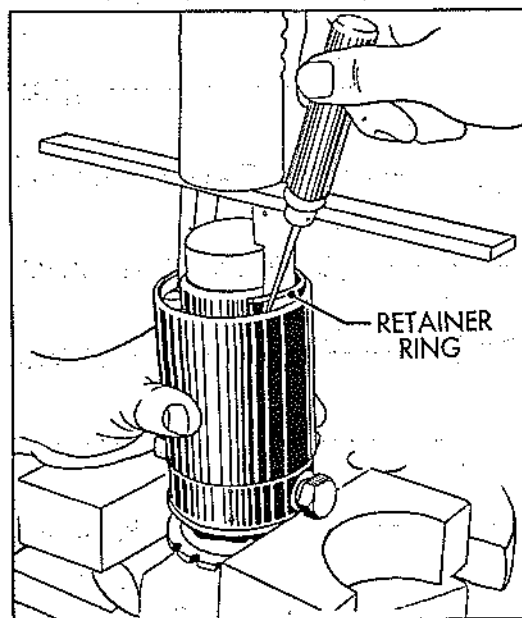

Figure 68.—Removing Retainer Ring
(2) Remove the retainer ring from the forward end of the unit as shown in Fig. 68.